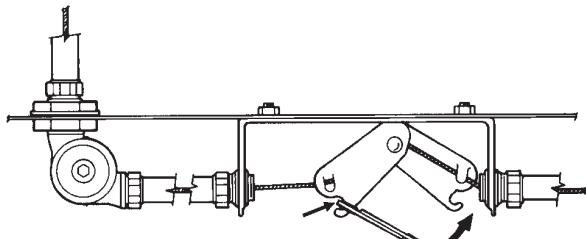

FIGURE 29
- 8. Hook the fusible link on the ANSUL AUTOMAN or remote release assembly side of the hook assembly, then pull the fusible link to the opposite side and complete the hookup as shown in Figures 29 and 30. The top of the hook assembly must be inside the bracket stiffeners. The hook assembly with the ANSUL fusible link in place must be located toward the terminal detector side of the bracket.